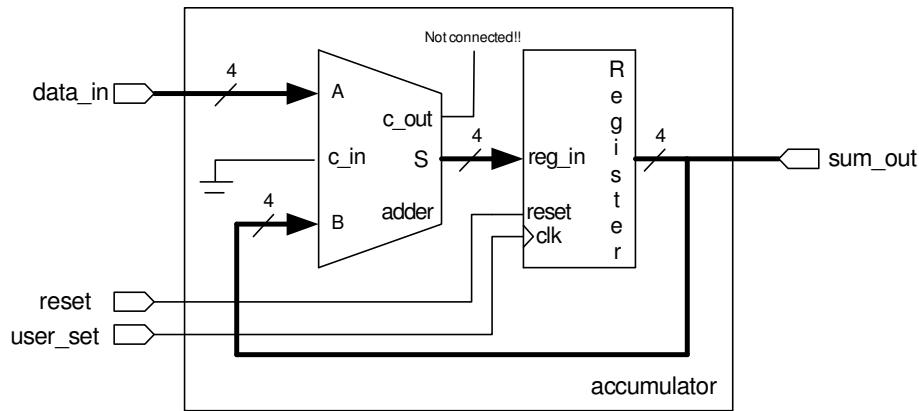

Figure 16; Accumulator block diagram.
2. Analyzing four\_bit\_reg.vhd description; Open the file four\_bit\_reg.vhd by double clicking on it under **Sources in Project** window. This file describes the “register” block shown in figure 16. When the input “reset” is high, the output of the block is “0000”. If a raising edge is detected in the input signal “clk”, the block will read its input “reg\_in” and write it down on its output signal “sum\_out”.
3. Creating a new source file; Following the same procedure as in step 1,2 and 3, go to **Project** → **New Source**, select **VHDL Module** and enter the name “accumulator”. Define the VHDL source as a structural architecture and declare the inputs and outputs of the accumulator following the block diagram in figure 16. Click **Next** → **Finish**. The result will be a new source file where the skeleton is ready for you to fill it out with the description of the circuit.
4. Declaring components; Following block diagram in figure 16, you will need two kind of components; a 4-bit full adder and a 4-bit register (the block that you added to your project through the file *four\_bit\_register.vhd* . Remember that a component declaration goes between “*architecture structural of accumulator is*” line and the “*begin*” line.
5. Connecting components; Component instantiation (section where you describe the connections between components) goes between the lines “*begin*” and “*end structural*” in the VHDL description of the system. Follow the logic diagram in figure 16 to describe the connections between the components and inputs/outputs of the accumulator.
6. Synthesize the project; Highlight the file accumulator.vhd in the **Sources in Project** window, expand **Implement Design** and double click on **Synthesize** in the **Processes for Source** window. Make sure there are no errors. Note that you will get warnings due to the “no connection” of the signal “c\_out” in figure 16.